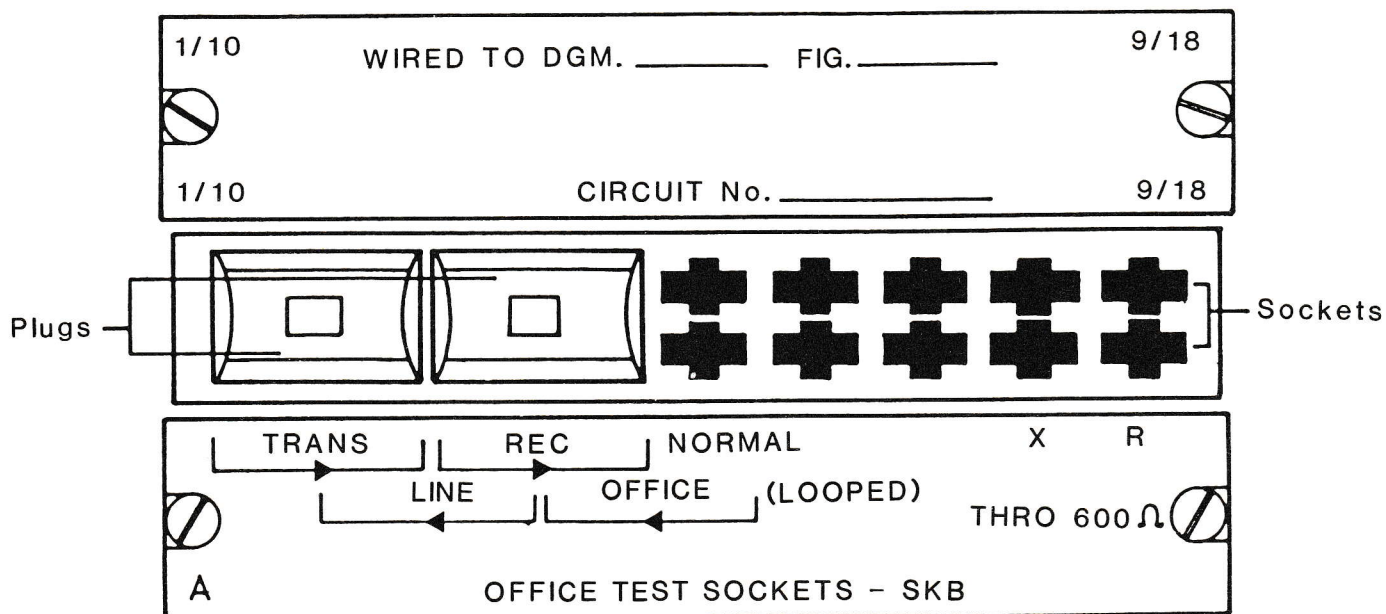
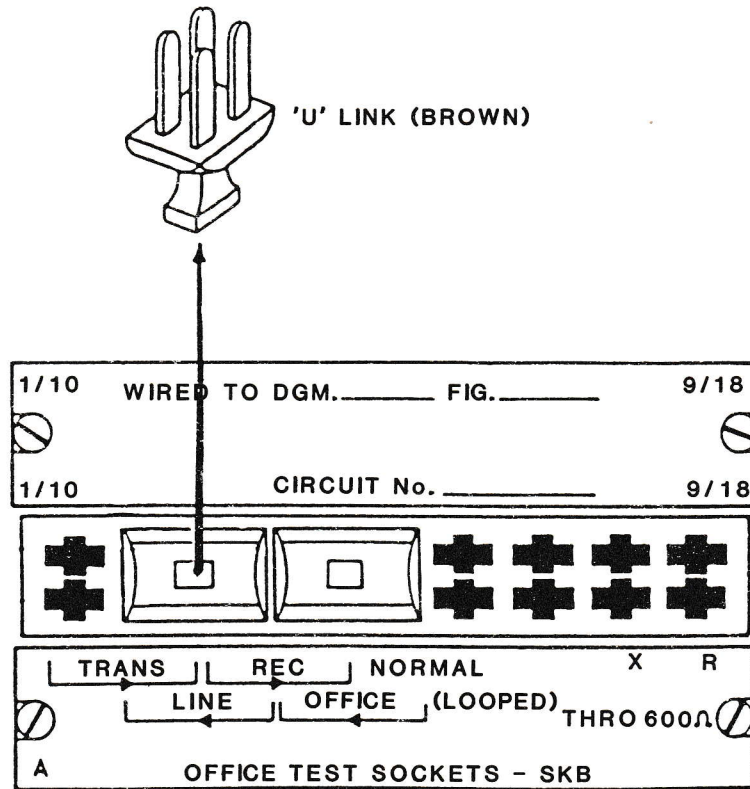

Fig B5. Alternative Test Unit with the brown plugs in the NORMAL or operating position.
Fig B6. Alternative Test Unit with the brown plugs in the LINE TEST position.
12. Figures B5 and B6 show the alternative testing unit installed in some Posts. Figure B5 shows the two brown plugs in the NORMAL position when the LST is in use. Figure B6 shows the two brown plugs in the LINE TEST position. This latter position is that in which the plugs must be placed at the end of each operation at training meetings and the former is that to which the plugs must be restored on manning up for subsequent operations.